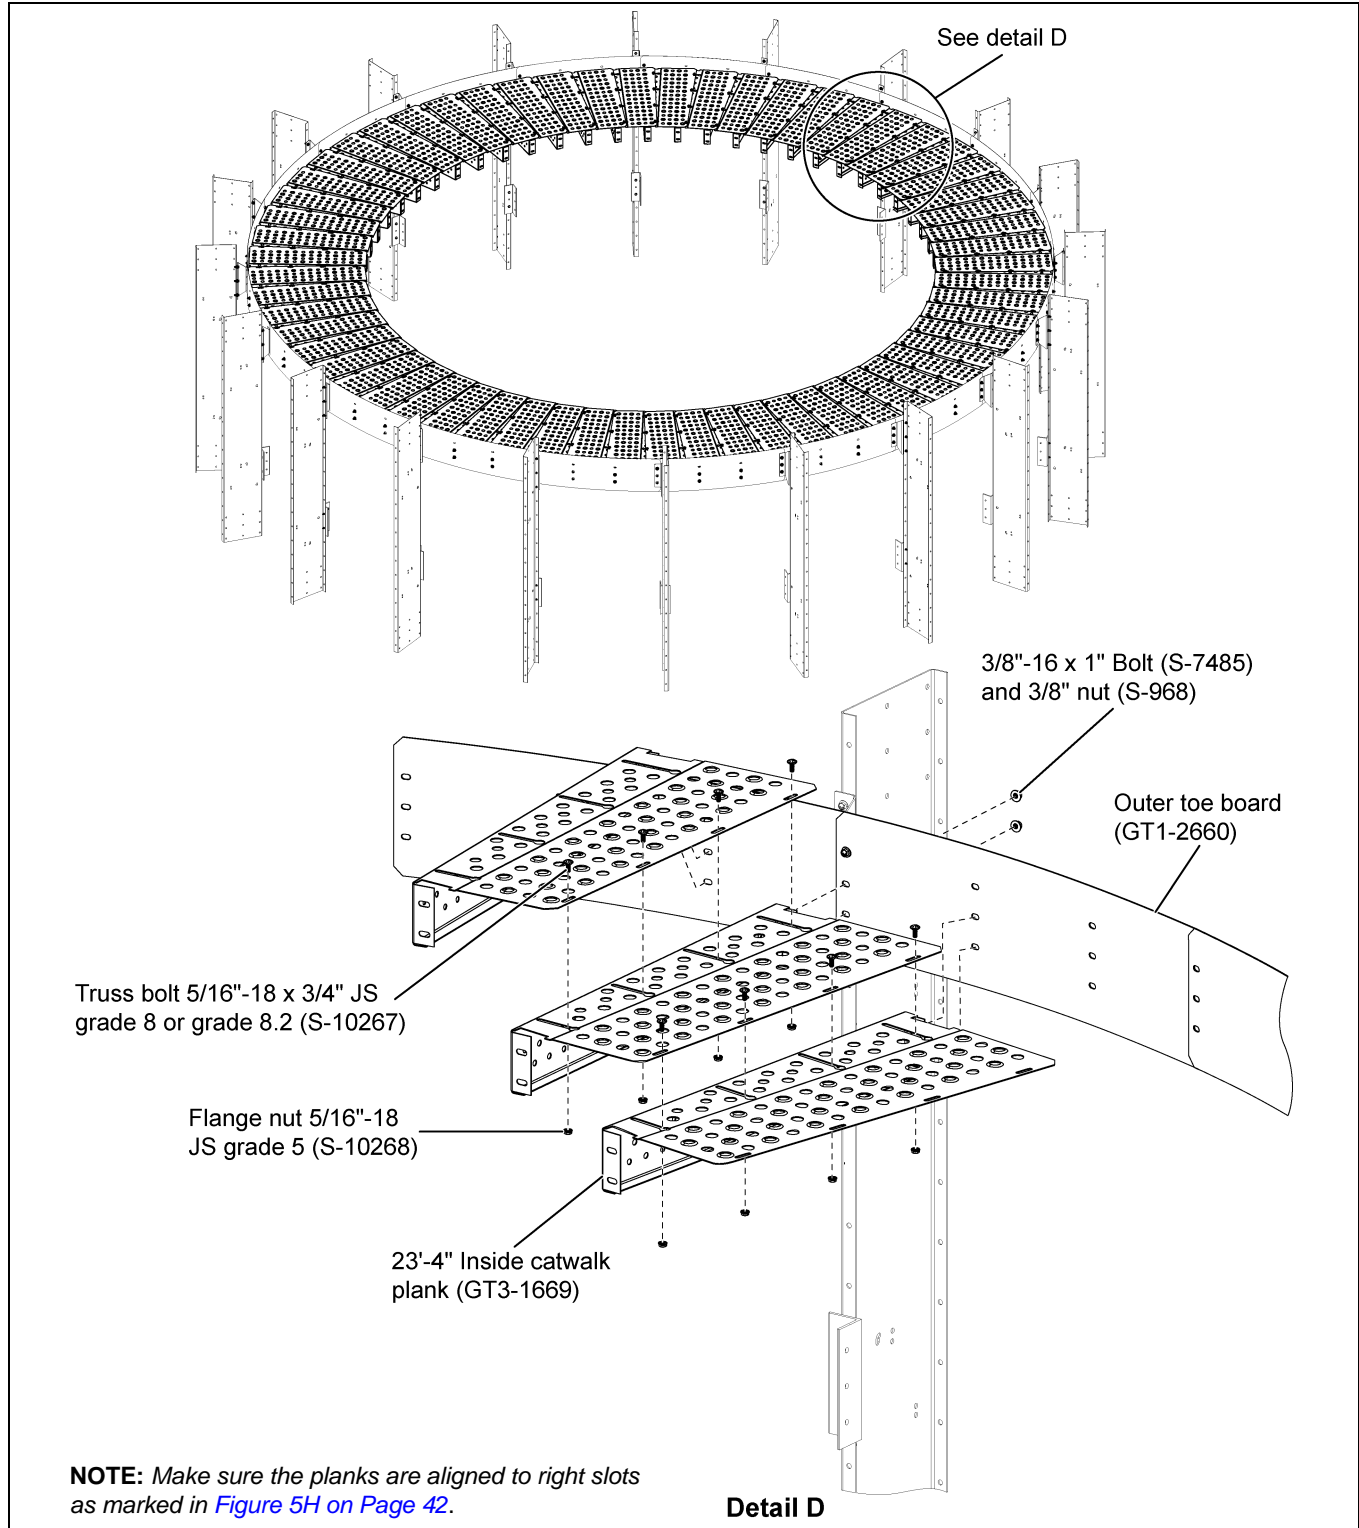

Figure 5F
1. Install the planks (GT3-1669) to the outer toe board (GT1-2660) using 3/8"-16 x 1" JS grade 8 or grade 8.2 bolts (S-7485) and 3/8"-16 ZN grade 5 nuts (S-968). (See Figure 5F.)